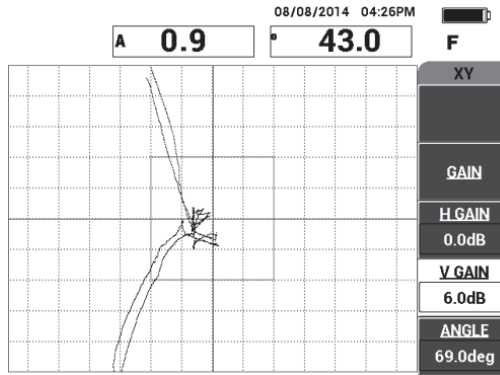

Figure 6-9 Adjusting the H GAIN and V GAIN
5. If necessary, adjust the **H GAIN** (C key) and **V GAIN** (D key) to obtain a clearer distinction between the near- and far-side disbonds (see Figure 6-9 on page 137).